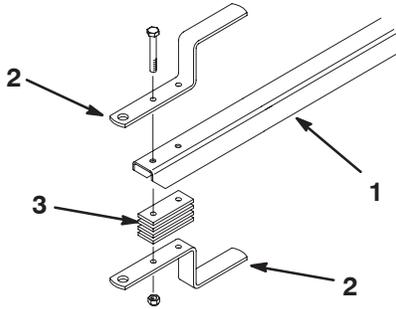

Figure 5
1. Adjust trailer tongue height until trailer is parallel to ground or until it fits tow vehicle hitch. Move spacers to top or bottom of tongue until desired location is attained (Fig. 5).